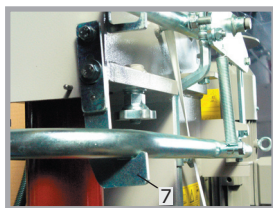

Abb. 7
Before the operating levers are operated for splitting, must first of Safety bar unlocked - being released (see Figure 7).
1. Engage the safety U-clamp → Hook up the clamp to its catch (Pos.7, Fig. 7)
1. Secure the U-clamp (Fig. 7) → hook up the clamp in its catch.